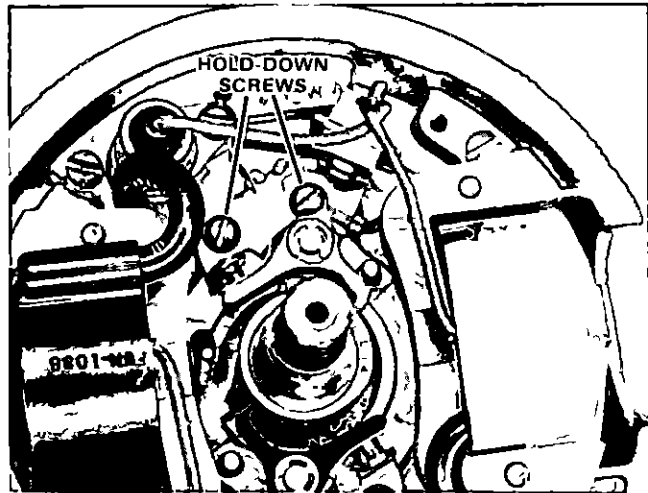

Figure 41. Location of Breaker Point Hold-Down Screws.
- 1 Position new coil at coil lamination of stator plate so that spark plug lead wire extends from upper left — inside (note position of spark plug lead wire in Figure 41)
- 2 Remove two screws holding breaker point to stator plate as shown in Figure 41